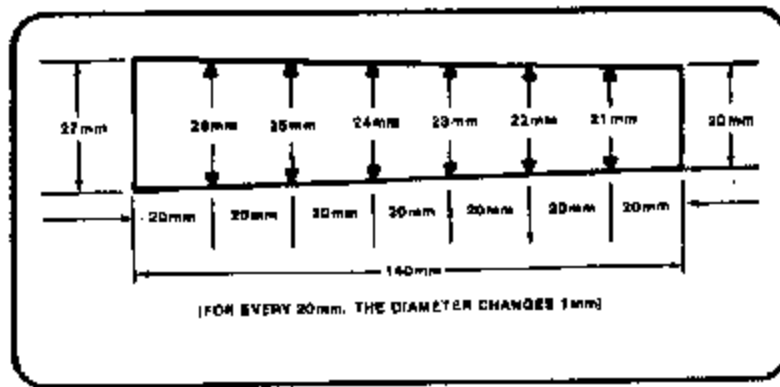

Figure 7-66. Metric taper, 1:200mm.
Metric tapers can also be calculated for taper turning by using the offset tailstock method. Metric tapers are expressed as a ratio of 1 mm per unit of length. Figure 7-66 shows how the work would taper 1 mm in a distance of 20 mm. This taper would then be given as a ratio of 1:20 and would be annotated on small diameter (d) will be 1 mm greater (d +). Refer to the following formula for calculating the dimensions of a metric taper. If the small diameter (d), the unit length of taper (k), and the total length of taper (l) are known, then the large diameter (D) may be calculated. The large diameter (D) will be equal to the small diameter plus the amount of taper. The amount of taper for the unit length (k) is (d + 1) -(d). Therefore, the amount of taper per millimeter of unit length = (l/k). The total amount of taper will be the taper per millimeter (l/k) multiplied by the total length of taper (l).